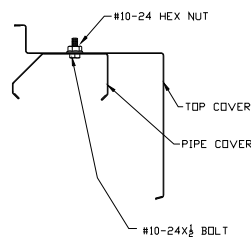

Figure 20
1. Locate the Top Covers and the Pipe Covers. If not already assembled together, then assemble per Figure 20.